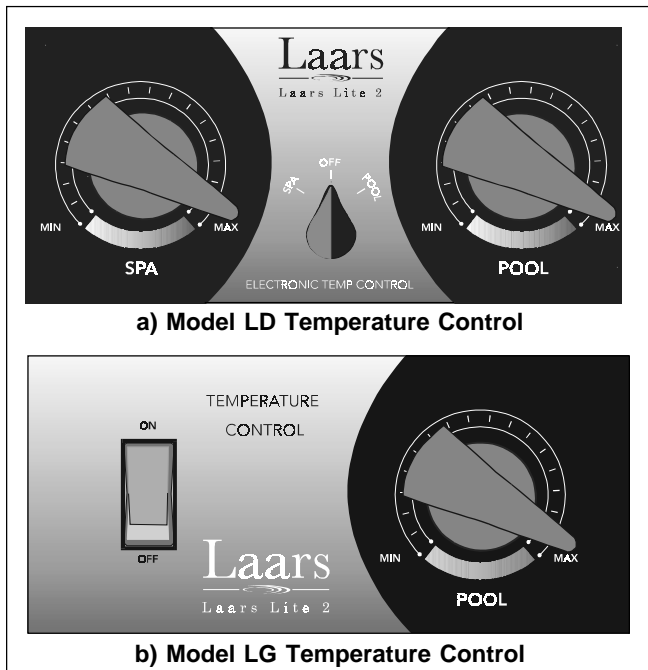

Figure 18. Temperature controls.
1. Set the control panel rotary switch (LD) or the control panel rocker switch (LG) to the OFF position (see Figure 18).
- Set the rotary switch (LD) or rocker switch (LG) on the temperature control panel (see Figure 18) to OFF.
The temperature control (see Figure 18) is calibrated at the factory and covers a range from approximately 70°F to 104°F (21°C to 40°C). Use an accurate pool thermometer to determine the best water temperature for your uses.
The Laars Lite 2 model LD has dual temperature controls, which allows two different temperature settings, selected by the rotary switch in the middle of the panel. One control can be set for normal use and the other for standby; or one can be set for pool and the other for a spa. Placing the rotary switch in the middle turns off the heater (see Figure 18). The model LG has only a single control and is set similarly to the LD above.